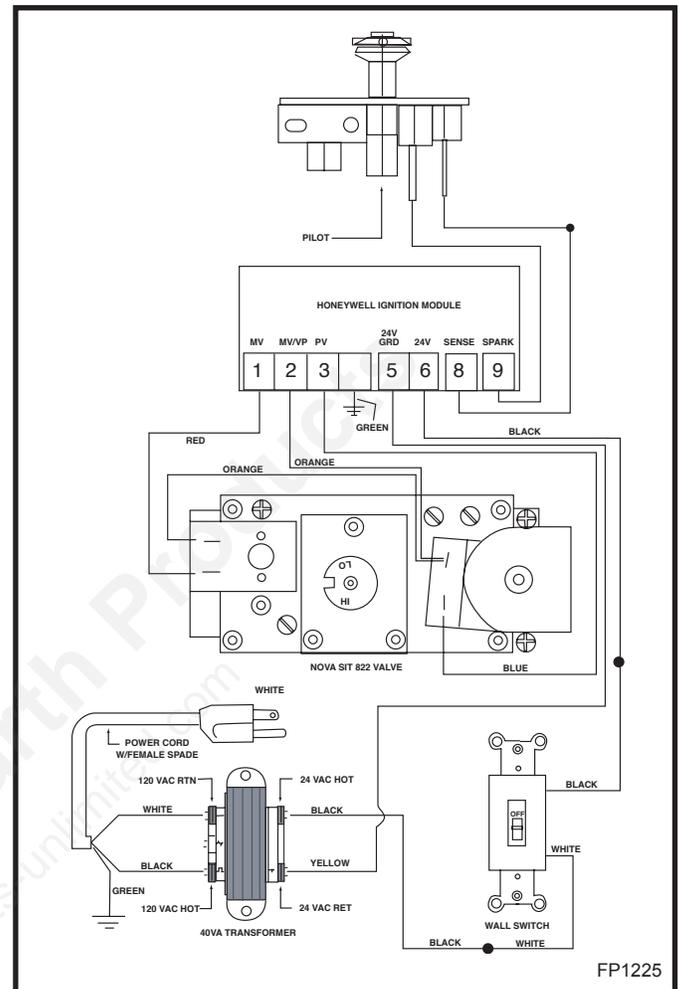

Fig. 12 Honeywell ignition module.
**Installation of the remote ON/OFF starter switch on electronic ignition units (Fig. 12):**